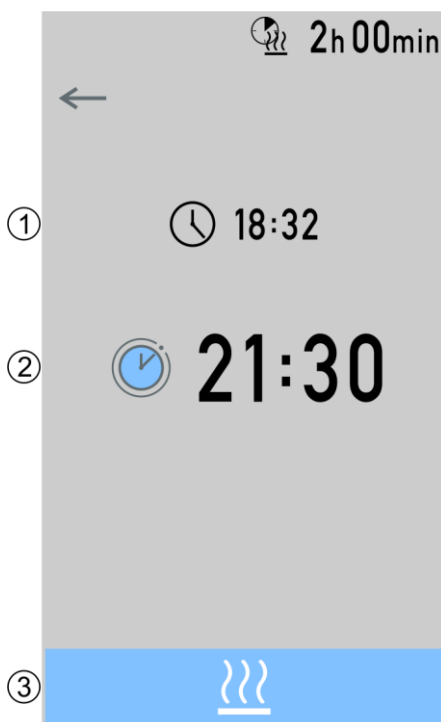

Fig. 3: Timer menu
2. Check the preferred start time (refer to fig. 3). Adjust the start time as necessary.
4. Press the preferred bath mode (refer to fig. 3) to start the control unit if a start time is set.